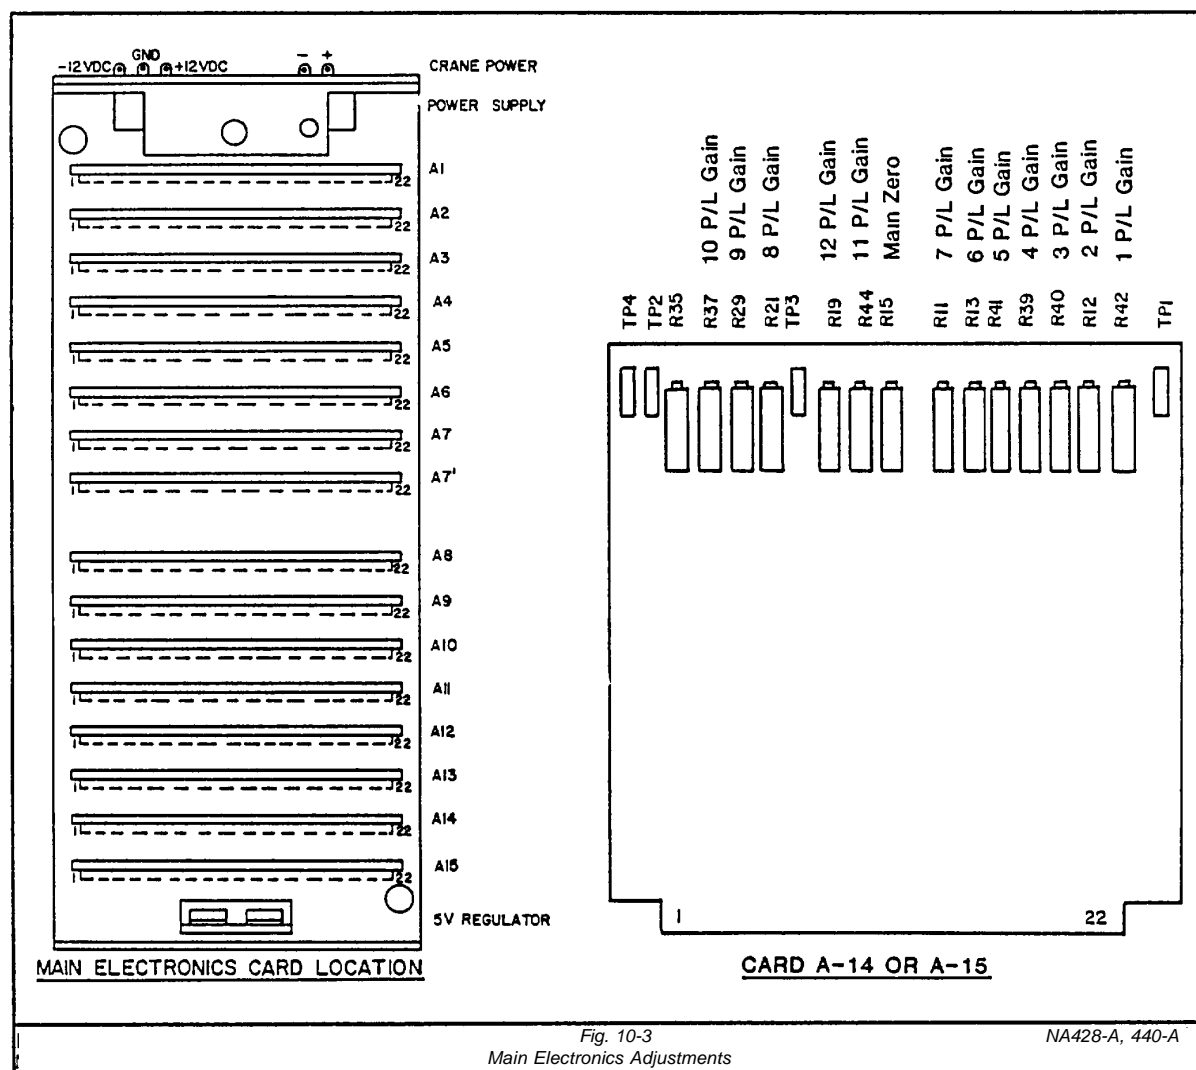

Fig. 10-3
- (aa) Refer to Fig. 10-3. Find load amplifier card A-14 (for left hook) or A-15 (for right hook). Locate main zero potentiometer R15 on the load amplifier Card A-14 or A-15. Using a small jewelers screwdriver, slowly adjust screw at potentiometer R15 until Load meter reads 0.
- (8) Hoist boom to angle that the radius can easily and accurately be measured. Lift a "known weight." If the Load meter does not indicate the "known weight," adjust the gain potentiometer for the parts of line as follows:
- (aa) Refer to Fig. 10-3. Find Load Amplifier card A-14 or A-15. Locate the gain potentiometer that corresponds to the parts of line reeved on the hook block. Using a jewelers screwdriver, slowly